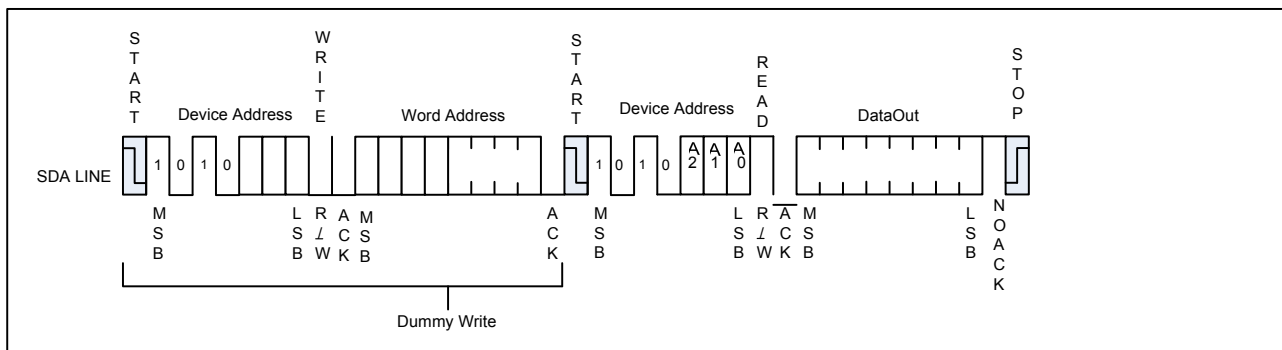

Figure8 Random Read
**RANDOM READ:** A random read requires a “dummy” byte write sequence to load in the data word address. Once the device address word and data word address are clocked in and acknowledged by the EEPROM, the microcontroller must generate another start condition. The microcontroller now initiates a Current Address Read by sending a device address with the read/write select bit high. The EEPROM acknowledges the device address and serially clocks out the data word. The microcontroller does not respond with a “0” but does generate a following stop condition (see Figure 8 ).